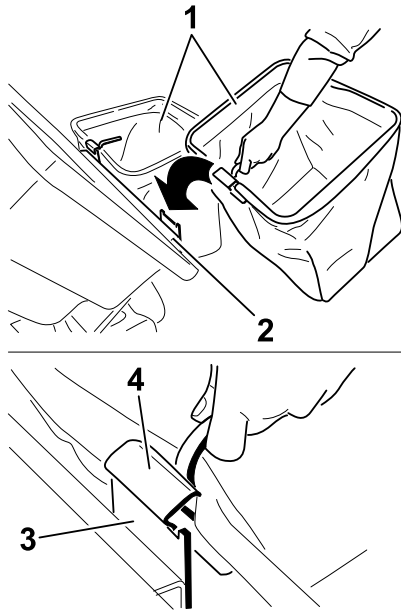

Figure 22
4. Lift the bagger top and install the bags by sliding the bag frame hooks onto the retaining brackets (Figure 22).